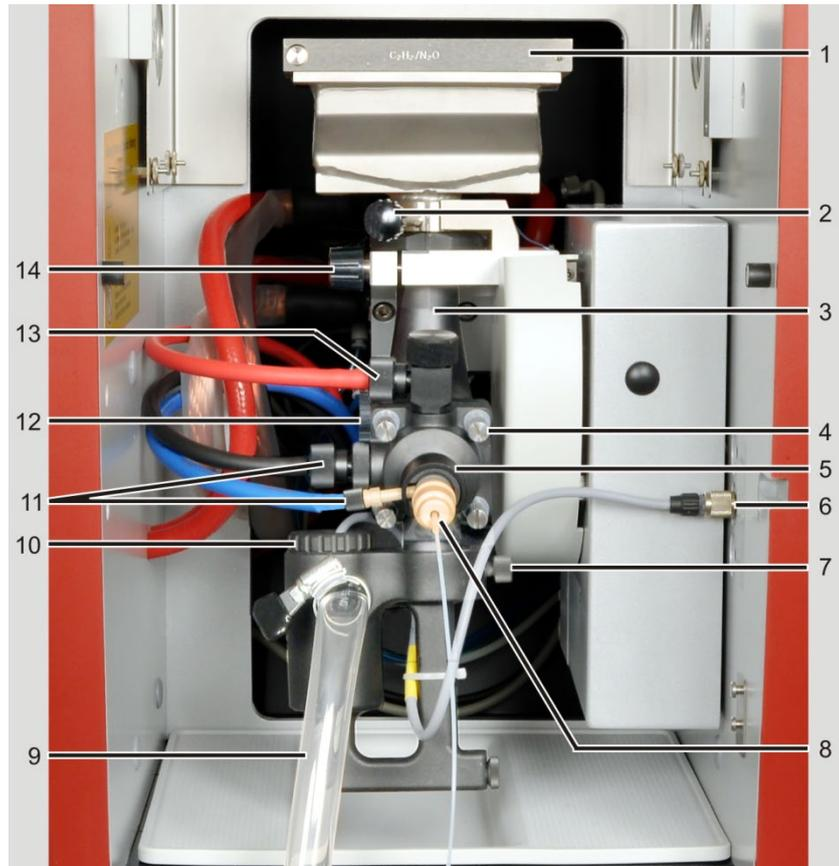
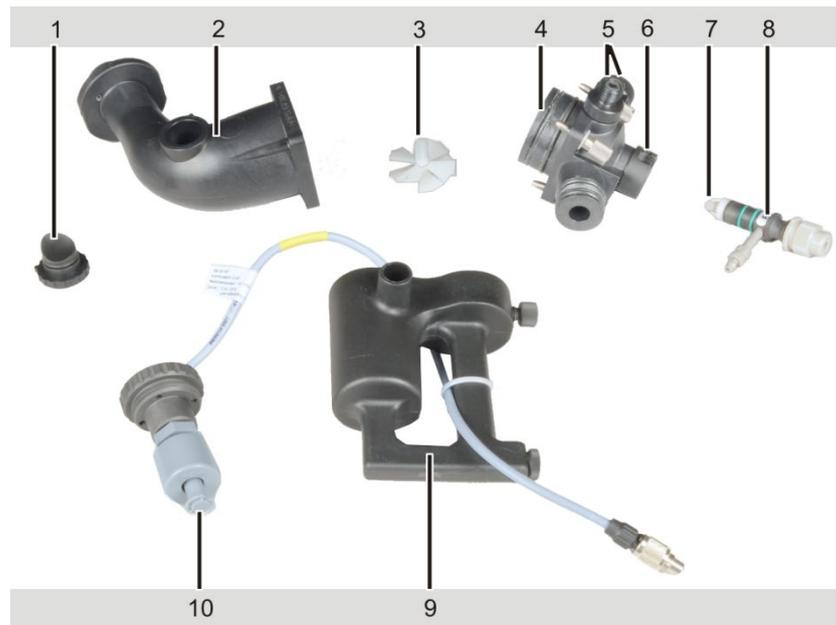

Fig. 54 Burner-nebulizer system
Fig. 55 Mixing chamber and nebulizer disassembled for cleaning
1. Loosen the lock screw (2 in Fig. 54 p. 99) on the burner and remove the burner from the burner neck.
2. Unscrew the screwed tube connections on the mixing chamber head and the nebulizer (11, 13 in Fig. 54) and pull off the sample intake tube from the nebulizer.
3. Turn the locking ring of the nebulizer (5 in Fig. 54) to open the locking.
5. Unscrew and pull off the siphon sensor from the connection in the sample chamber wall (6 in Fig. 54).
6. Remove the draining hose from the drainage connector of the siphon (9 in Fig. 54). Release the hose clamp to do so.
7. Release the clamping screw of the siphon (7 in Fig. 54) and pull off the siphon downwards. Empty the siphon.
8. Unscrew the insert of the siphon sensor, pull the sensor out of the siphon (10 in Fig. 55).
9. Hold the system tightly, unscrew the knurled head screw on the mounting bracket of the mixing chamber tube (14 in Fig. 54), rotate the mounting bracket backwards and remove the system.
10. Withdraw the safety plug (1 in Fig. 55) from the mixing chamber.
11. Loosen the four screw joints of the mixing chamber (4 in Fig. 54) and disassemble the mixing chamber into the chamber head and the chamber tube.
12. Remove the mixing impeller (3 in Fig. 55) from the chamber tube.
13. Unscrew the gas connections for fuel gas and auxiliary oxidant (5 in Fig. 55) from the mixing chamber head.
1. Turn the baffle ball (7 in Fig. 55 p. 99) slightly and pull it off the nebulizer. If the baffle ball is seized, immerse the nebulizer in an ultrasonic bath with ultrapure water for a few minutes.
2. Hold the mixing impeller at the handle (3 in Fig. 55 p. 100) and insert it into the mixing chamber tube. Lock by pressing slightly.
3. Connect the mixing chamber parts (chamber tube and chamber head), align the sides so that they are flush and screw them together (2, 4 in, p. Fig. 55). Ensure that the sealing rings are seated correctly.
4. Screw the siphon sensor (10 in Fig. 55 p. 99) into the siphon. Attach the siphon to the chamber head with the drainage connector pointing forward. Secure the siphon with a clamping screw (7 in Fig. 54).
5. Attach the safety plug (1 in Fig. 55) on the chamber tube.
6. Screw the connections for fuel gas and auxiliary oxidant (5 in Fig. 55) with the sealing rings into the mixing chamber head.
7. Insert the nebulizer (8 in Fig. 55) into the chamber head and secure it with the locking ring (6 in Fig. 55).
8. Attach the mixing chamber nebulizer system to the height adjustment in the sample chamber using the mounting bracket (14 in Fig. 54). The marking must be above the edge of the holding fixture. The plate of the mixing chamber tube must make contact with the mount. Screw the knurled head screw at the holding bow tightly.
9. Plug the cable of the siphon sensor (6 in Fig. 54) into the connection at the side panel of the sample chamber (take care with the lug) and tighten.
10. Attach the drain hose to the drainage connector of the siphon (9 in Fig. 54). Secure with a hose clamp. Feed the drain hose with a steady inclination into the waste bottle.
12. Set the burner on the mixing chamber tube and turn against the 0° stop. Clamp on using the locking screw (2 in Fig. 54).
13. Screw the hose for fuel gas (red) to the connector at the top of the mixing chamber head (13 in Fig. 54).
14. Screw the hose for oxidant (blue) to the nebulizer connector (11 in Fig. 54 p.)
15. Screw the hose for auxiliary oxidant (black) to the connector at the side of the mixing chamber (11 in Fig. 54 p.)